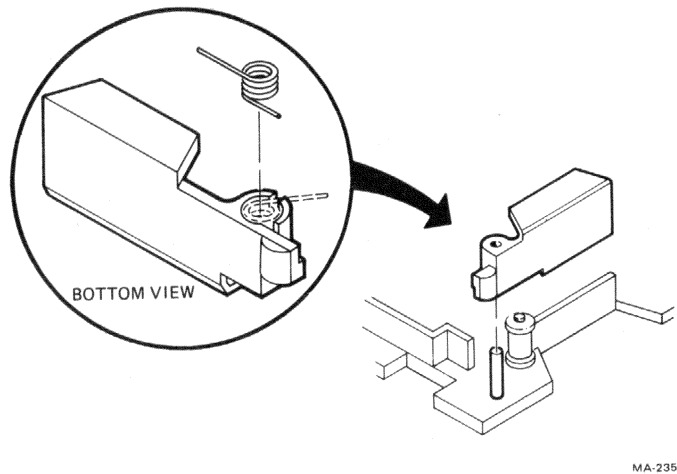

Figure D-3 Head Gate and Spring
A spring is in the bottom of the gate. (Figure D-3).
10. To reassemble the cartridge, reinstall the gate (if desired) by aligning the long and short ends of the spring with the long and short ends of the gate, as in Figure D-3.